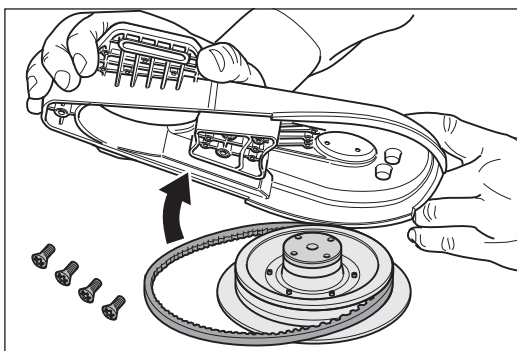

Fig. 38 Remove the attachment from the complete sanding plate.
- 11 Remove the attachment from the complete sanding disc (Fig. 38).